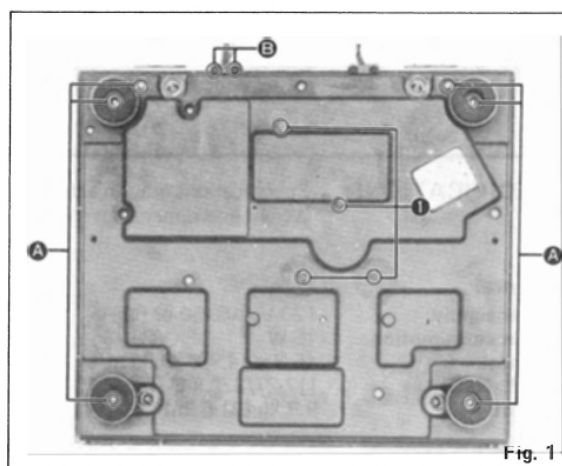

Fig. 1
5. Remove 6 screws **A** of the audio insulator and 2 screws **B** of the phono cord clamber as shown in fig. 1.
The circuit board assembly can be detached by removing the 4 setscrews ❶ shown in Fig. 1. When installing it onto the bottom base assembly after adjustment and repair, follow the procedure mentioned below.
1. Temporarily tighten the 4 setscrews ❶. (Refer to Fig. 1.)